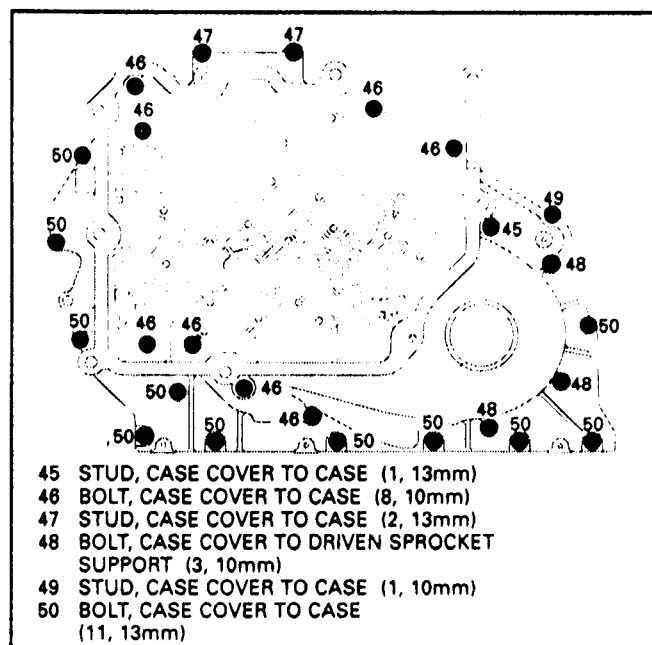

Figure 53
2. Remove 26 case cover bolts and studs as shown in Figure 53.